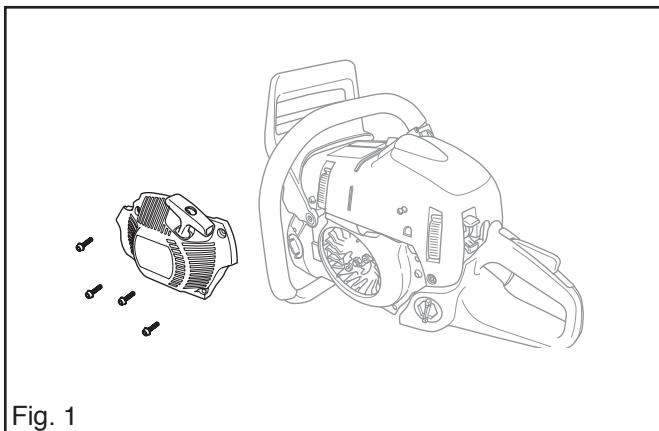

Fig. 1
1. Remove the four bolts holding the starter to the crankcase and remove the starter. See fig. 1.
8. Fit the starter on the crankcase. Tighten the bolts to 4 Nm. See fig. 1.